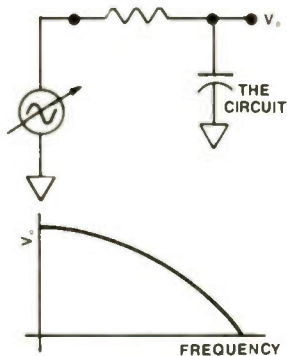

Figure 5. The R-C circuit used for an integrator also works as a low-pass filter. The high frequencies are shunted to common through the capacitor.
- **The low-pass filter:** The R-C circuit used for an integrator also works as a low-pass filter. Figure 5 shows this idea. The high frequencies are shunted to common through the capacitor. Because the differentiator is a high-pass filter and the integrator is a low-pass filter, those concepts are sometimes used to describe the action of the sync separator in an analog TV system. This model of circuit behavior is illustrated in Figure 6.